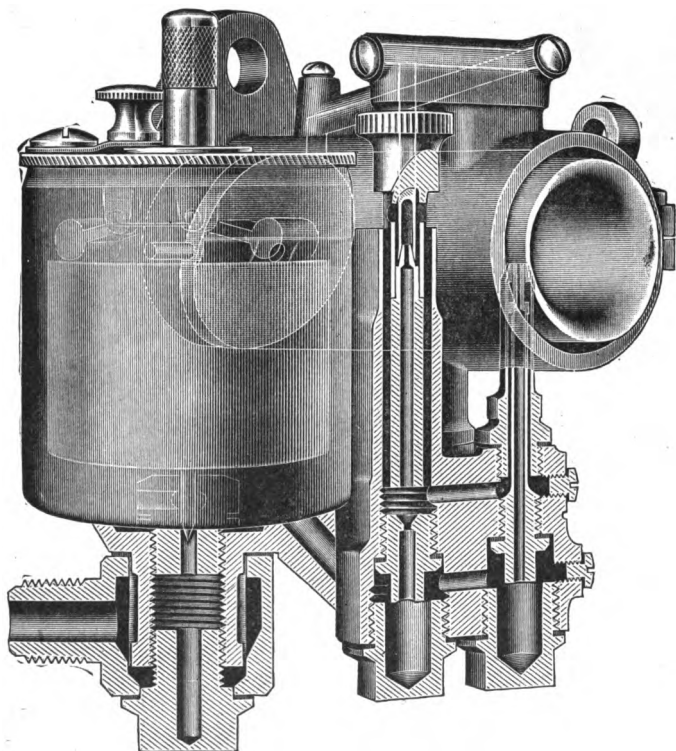

Fig. 86. Zenith Carburetor, Model "HP"
*Horizontal Type Adjustments and Changes.* Everything that has been said thus far applies equally well to the horizontal type shown in Fig. 86, except for the adjustment of the idling jet. In this form, the idling jet *P*2 is supported by the knurled nut *O* which governs the air opening for this jet, and replaces the horizontal milled screw *O*. If a leaner mixture is desired, this is turned to the right, or clockwise; this lowers the jet and increases the size of the available air passage. For a rich mixture it is turned the other way, or counter-clockwise, reducing the air opening.